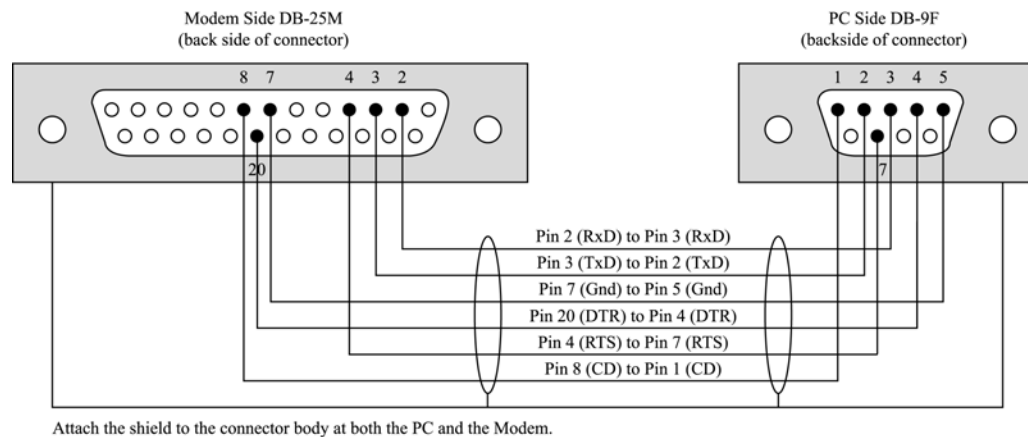

Figure 21: Modem/DB-25M to PC/DB-9F PC Serial COM Port Connection
- If the modem has a male DB-25 connector and the host computer's serial port has a female DB-9 connector, purchase or create a cable as shown in Figure 21.